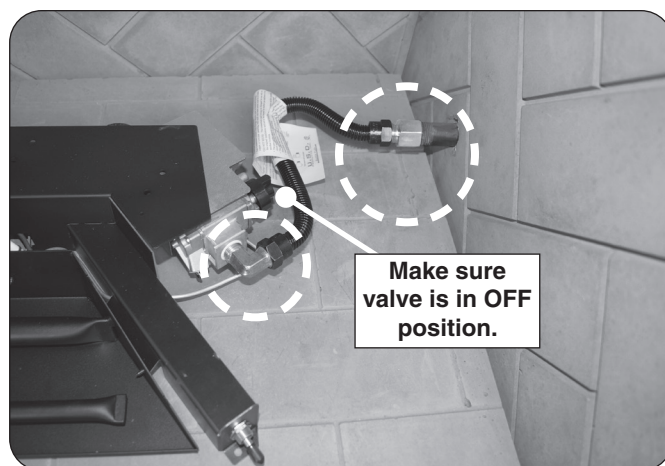

Fig. 17-3 Perform leak test
5. **LEAK TEST:** Make sure the burner valve is in the OFF position. Turn on the fireplace gas supply, and test at all connections for leaks using the appropriate soapy water solution. See Fig. 17-3. If bubbles appear, a leak is present. Turn off the gas and tighten at all connections. Repeat until no leaks are present. If a leak persists, turn off the gas supply and contact the local gas company or dealer. NEVER USE A FLAME TO CHECK FOR LEAKS.